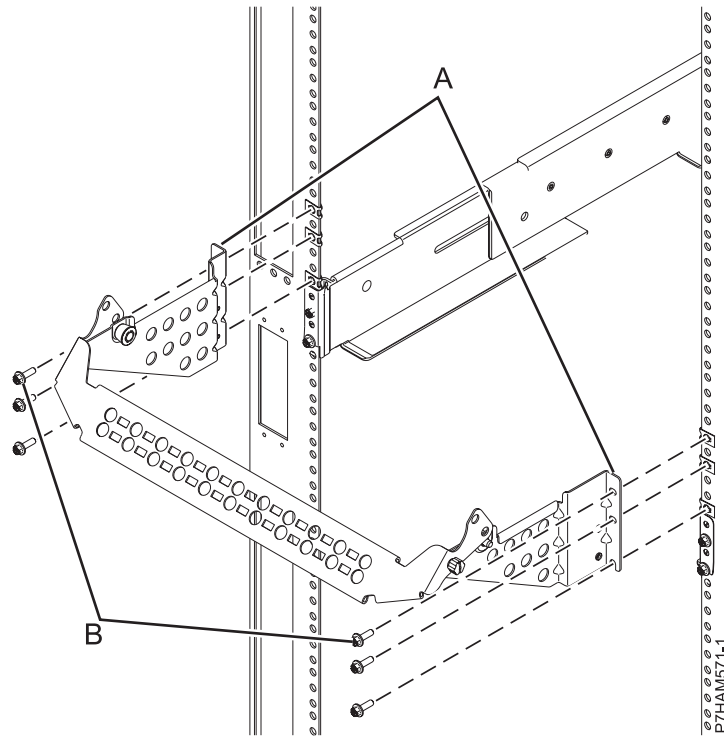

Figure 12. Installing the cable management bracket
- k. At the rear of the rack, hold the assembled cable management bracket so that its mounting flanges (**A**) align with holes in the rack flanges directly above the expansion unit rail clamps, as shown in Figure 12 on page 13. Attach each bracket mounting flange by applying M5 screws (**B**) to the three